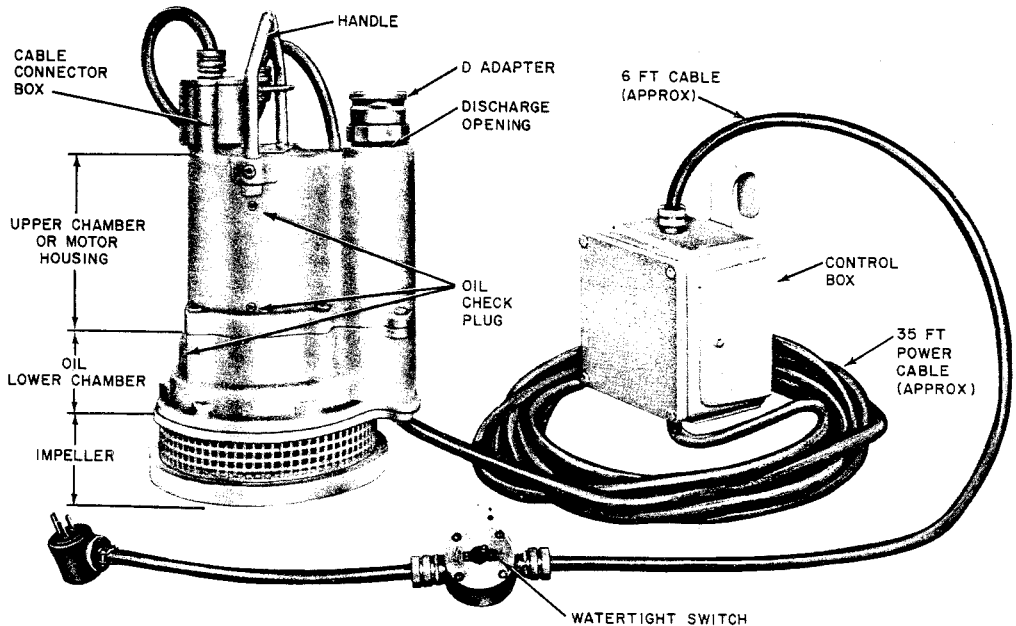

Fig. 2—C.H.&E. Pump Model ES-005 (Formerly the B Submersible Pump)
**4.01** The C.H.&E. pump model ES-055 (Fig. 2) is a 2-inch, self-priming, centrifugal pump, powered by a 1/2 HP, single-phase motor that operates on a 115 volt ac, 60 Hz power supply. Thermal cutouts on the stator winding protect the motor from electrical overloads.